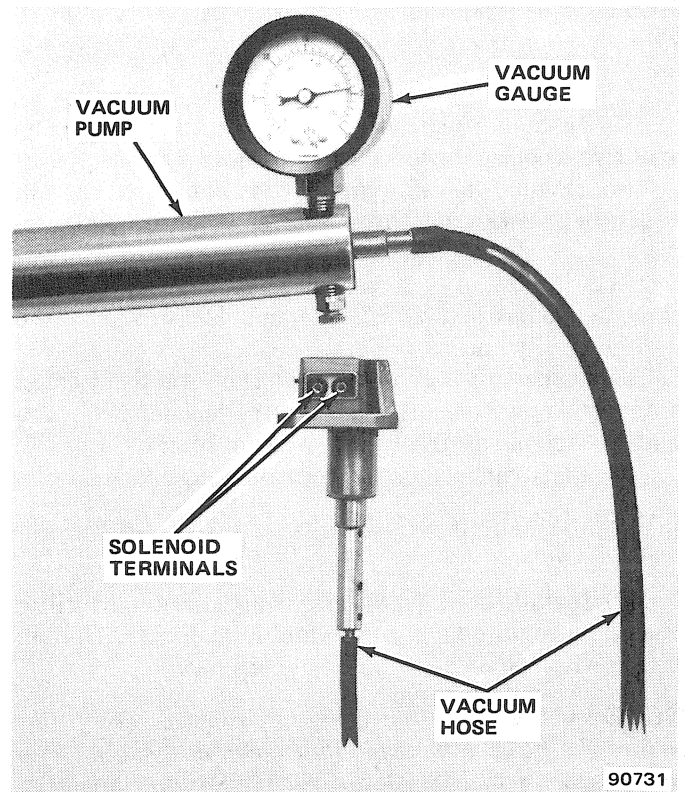

Fig. 1J-86 Carburetor Model E2SE—Testing Mixture Control Solenoid
If the mixture control solenoid is suspected of either sticking, binding or leaking, test according to the following procedure (fig. 1J-86).
(1) Install curb or base idle speed adjustment screw and spring, if removed, in throttle body (fig. 1J-82).
(2) If removed, install fast idle adjustment screw and clip in primary throttle lever (fig. 1J-82).
(3) Holding primary throttle lever wide open, install lower end of pump rod in throttle lever by aligning tang on rod with slot in lever. End of rod should point outward toward throttle lever.